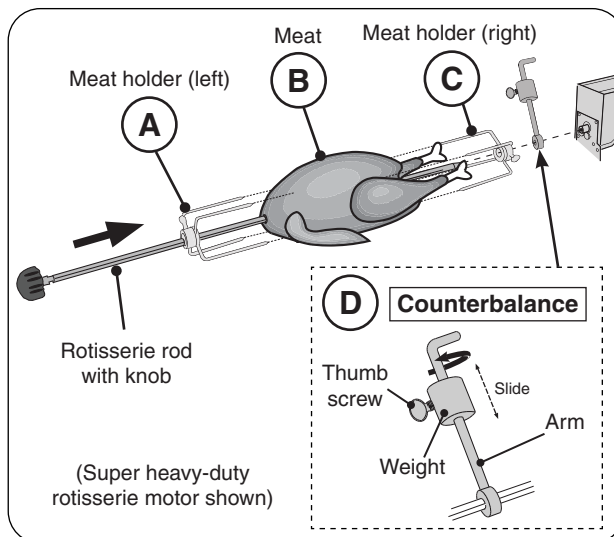

Fig. 3-3 Assemble rotisserie rod for cooking
5. Slide the left meat holder onto the rod and tighten (see Fig. 3-3, A).
6. Then slide meat onto the rod, followed by the right meat holder (see Fig. 3-3, B and C).
9. The counterbalance may then be attached to even weight distribution. Slide the counterbalance onto the rod next to the right meat holder (see Fig. 3-3, D). Loosen the arm and point it upward opposite the heavy side of the meat. Tighten the arm.
10. Slide the counterbalance weight up or down the arm until the rod rotates most evenly then tighten thumb screw (see Fig. 3-3, D).